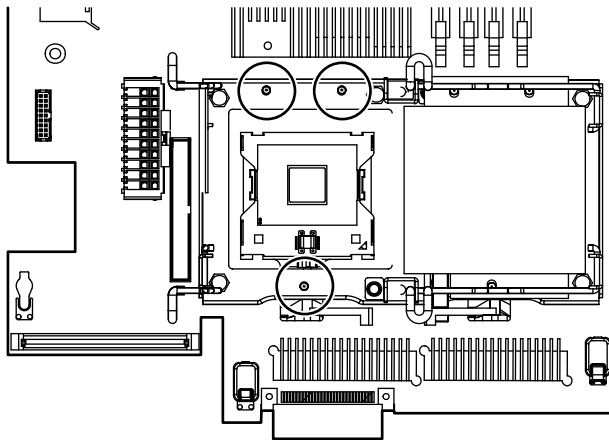

Figure 73 Align the processor pins with the socket holes
2. Align the holes in the heatsink with the guiding pegs on the processor cage (Figure 73).